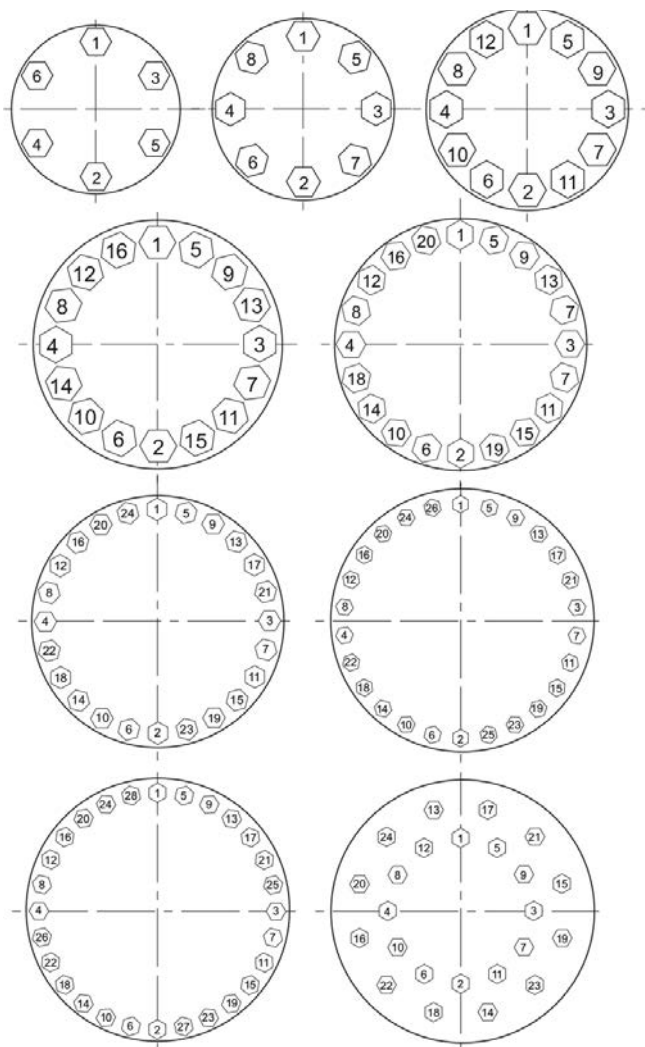

Figure 6 - Tightening Sequence of Nuts (8)
Evenly tighten the nuts (8) by applying the torque indicated in Tables 2 through 9 on pages page 20 through page 23, and the tightening sequence in Figure 6 on page 19.
Beginning with the internal nuts, manually screw all the bolts. Screw the internal nuts in order indicated in Figure 6 and screw them by successive, uniform and progressive levels. During the tightening, make sure that the bonnet face stays parallel to the body. When the torque values given in the following Table 2 on page 20 are reached, the bonnet face must be in contact with the body. Screw the external nuts in the order indicated in Figure 6 and screw them by successive, uniform and progressive levels until the torque values given in the tables on next pages are reached.